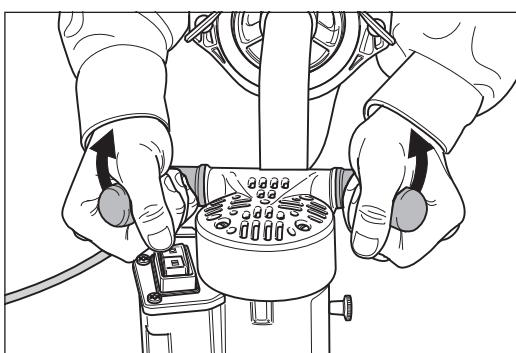

Fig. 9 Tilt the machine backwards slightly before starting and switching off the machine.
- **Always tip the machine backwards slightly (fig. 9) before starting the machine so that the sanding disc is raised off the floor!**
1 Tip the machine backwards slightly (fig. 9)!
Always tip the machine backwards slightly (fig. 9) before switching off the machine so that the sanding disc is raised off the floor!
- 1 Tip the machine backwards slightly (fig. 9)!**